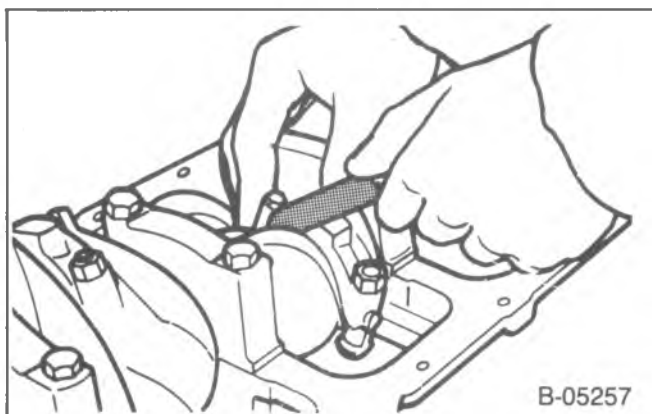

Figure 34—Measuring Connecting Rod Side Clearance
- Connecting rod side clearance. Use a feeler gage between the connecting rod and crankshaft (figure 34). The correct clearance is 0.006-0.017-inch.